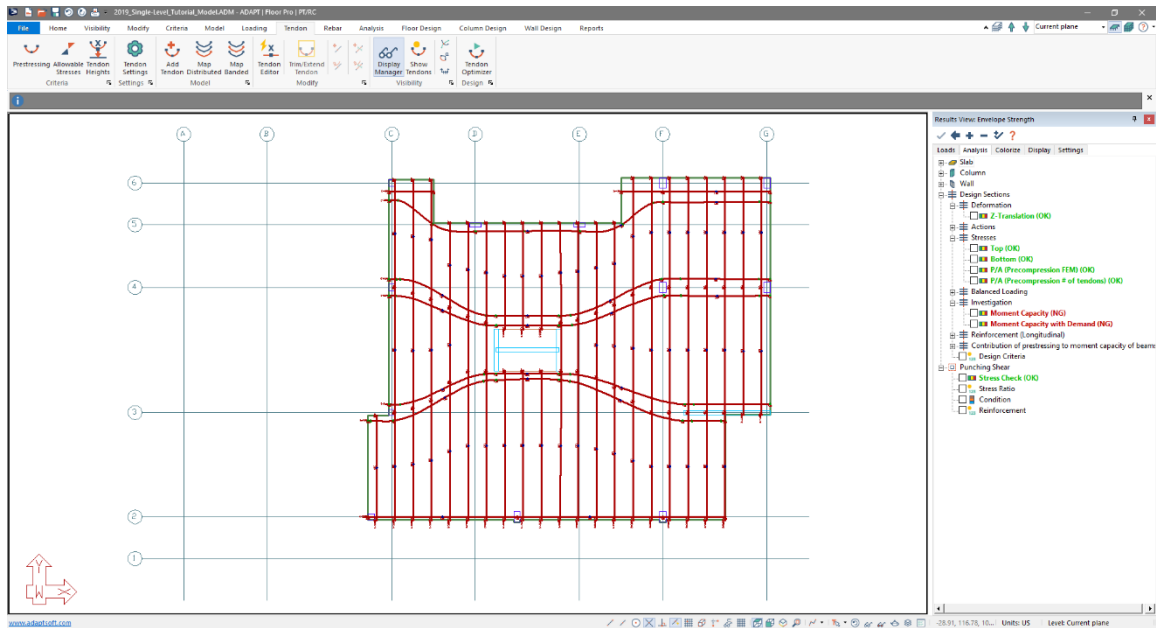

Figure 8-89
- Make the selections as shown in **FIGURE 8-88** and click the *OK* button. The users screen should appear similar to **FIGURE 8-89**.